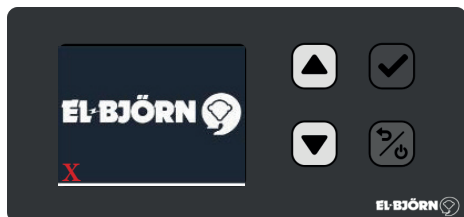

Figure 1
The software version is shown at the bottom left of the display on start-up. See highlighting (X) in Figure 1.